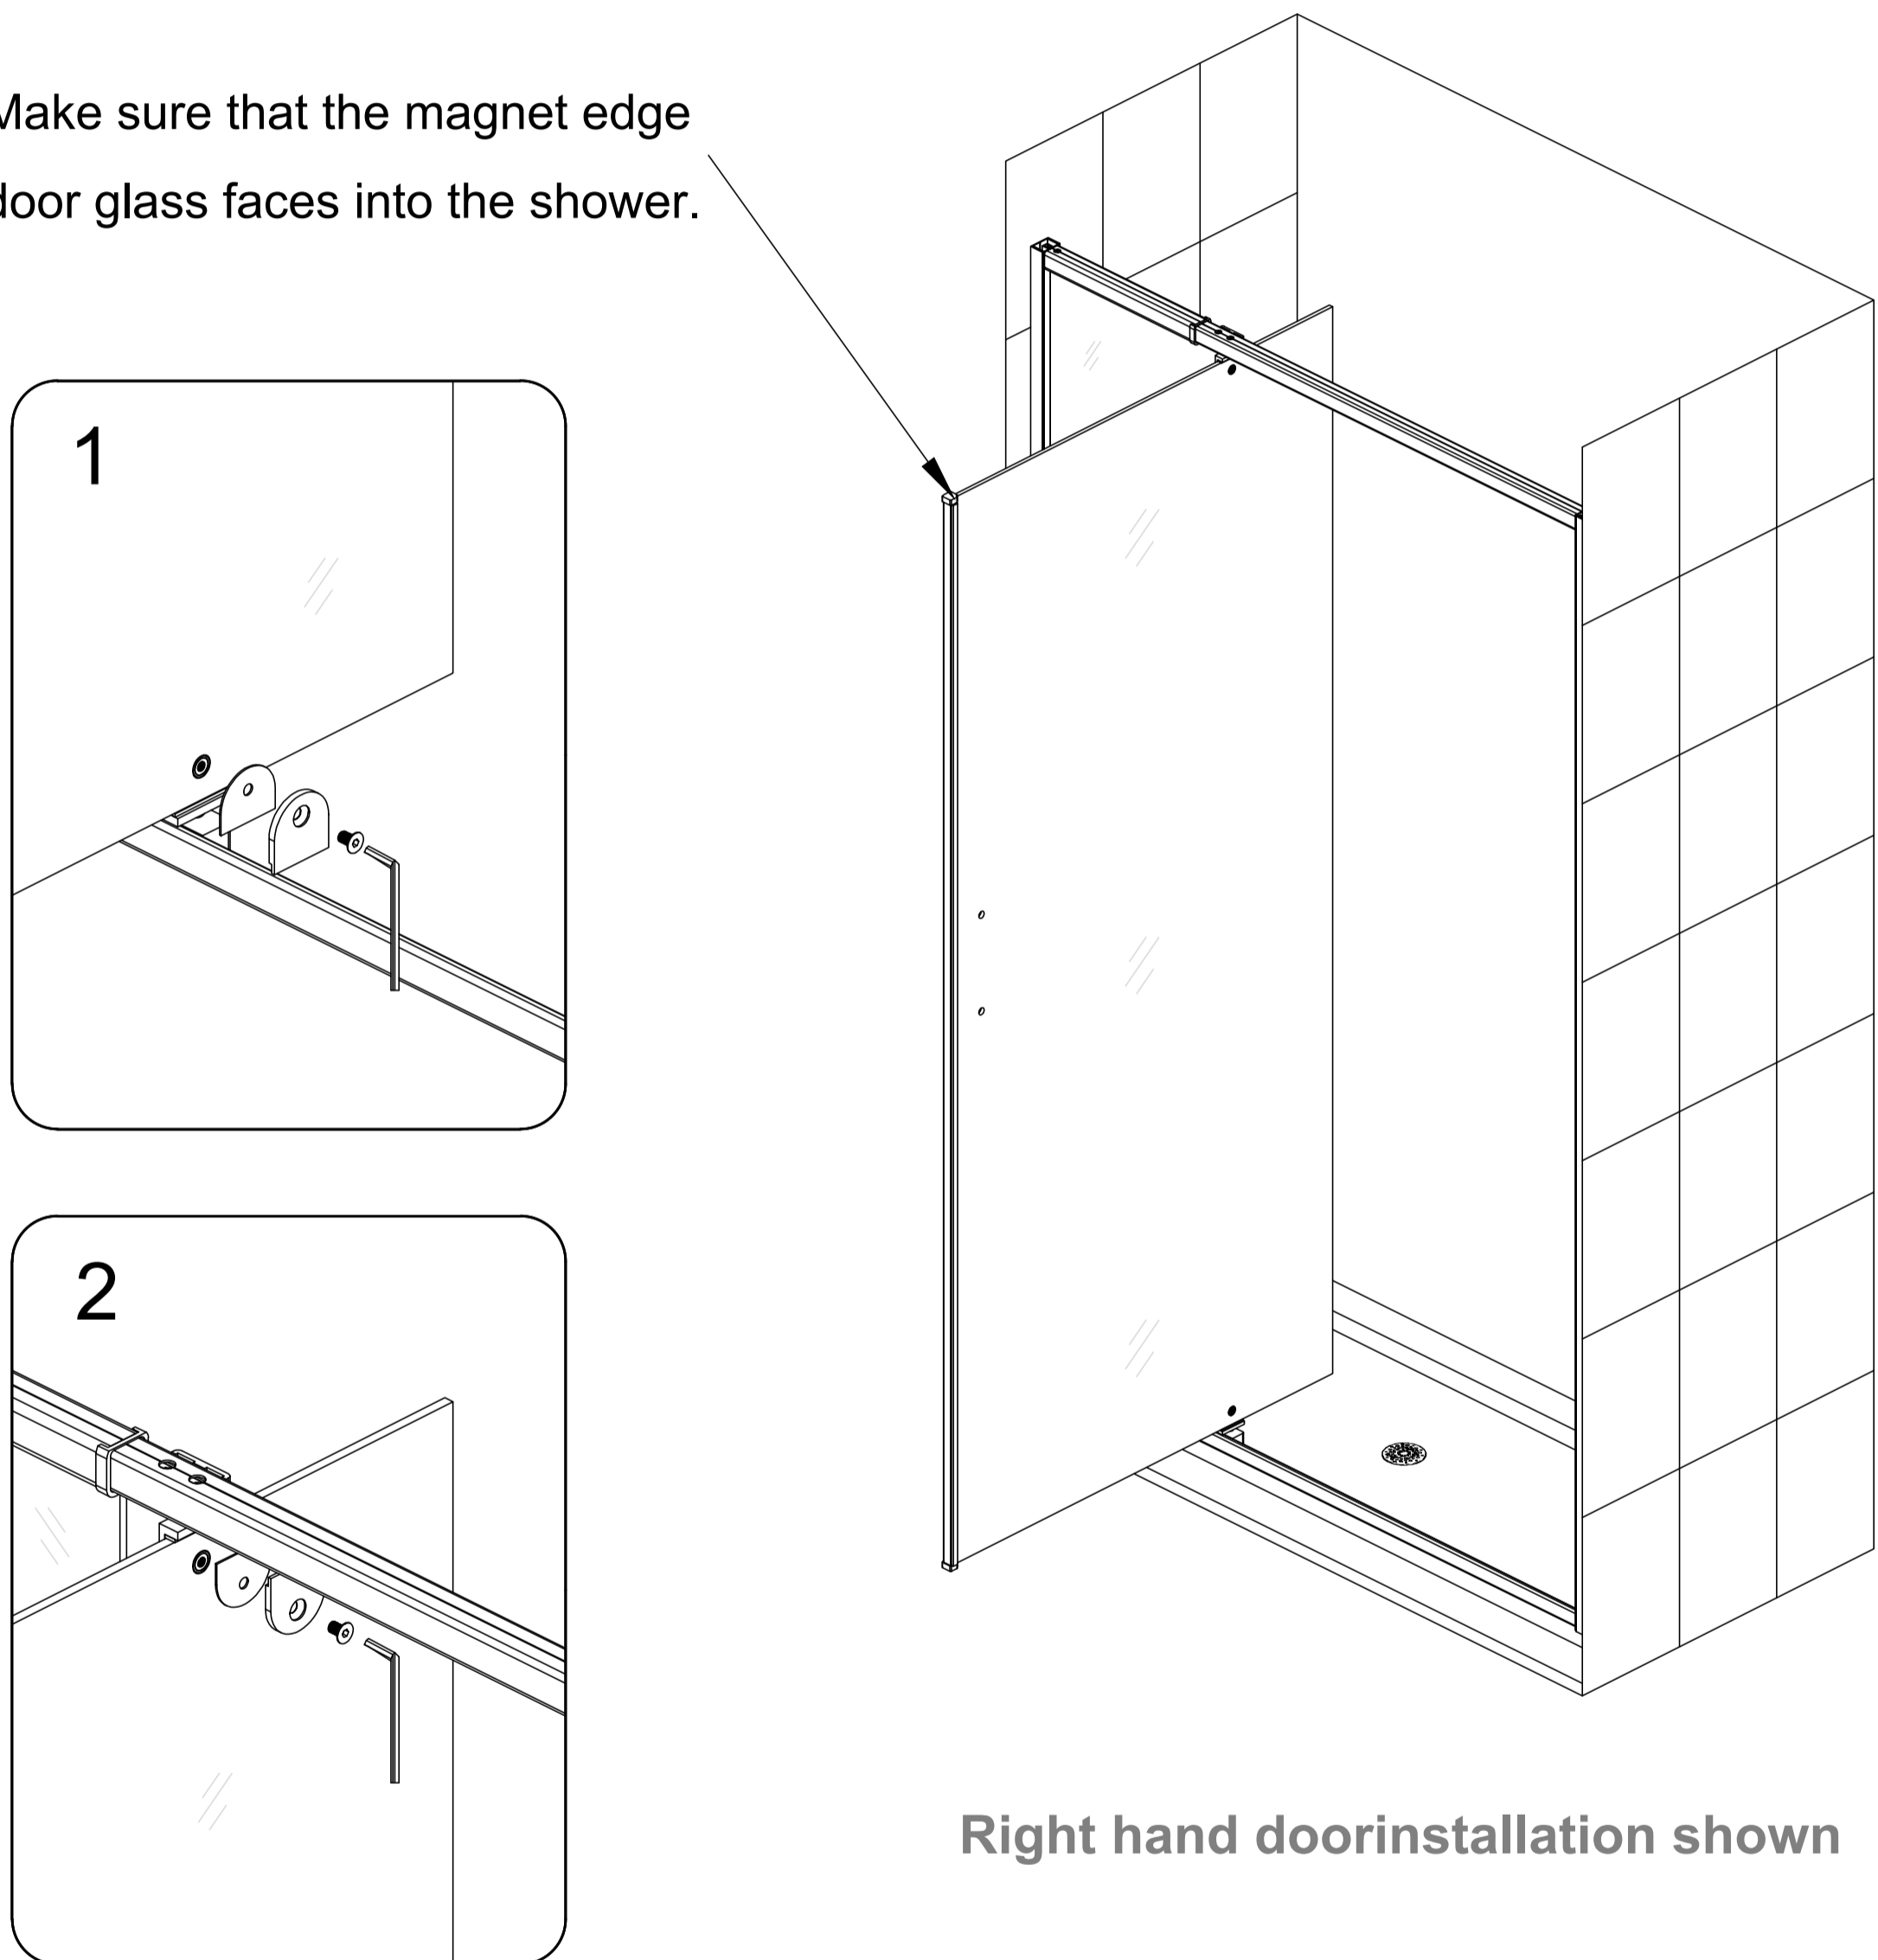

Fig 14
Carefully install the **Glass Door (H)** onto **Bottom Rails (A)**. Install the another **Pivot (B)** into the pivot bases of the **Top Rails (A)** and then install the **Glass Door (H)** onto **Top Rails (A)**. (Fig 14)